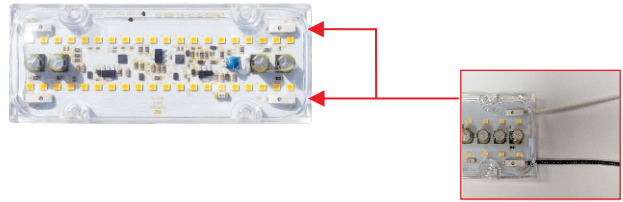

Figure 1
1. Start by inserting wires into the input connectors on either side of the LED Engine (A). See Figure 1.